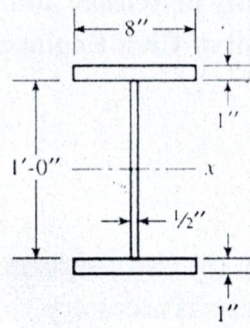

Fig. 5.1
5. (a) Determine the plastic section modulus S and the plastic moment for the following Fig.5.1. For Grade 50 steel.